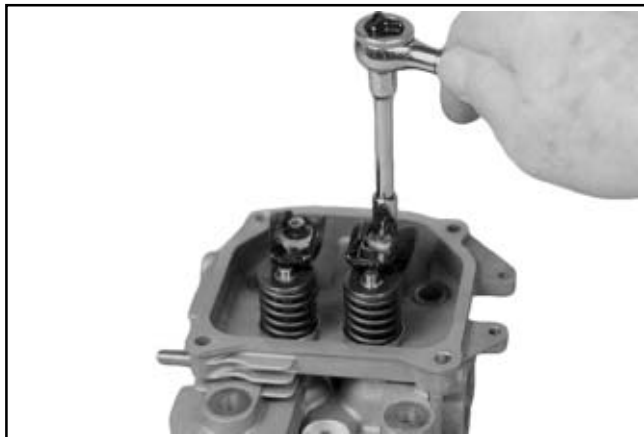

Figure 9-51. Removing Rocker Arms.
1. Remove the two hex. flange screws, rocker arm pivots and rocker arms from the cylinder head. See Figure 9-51.